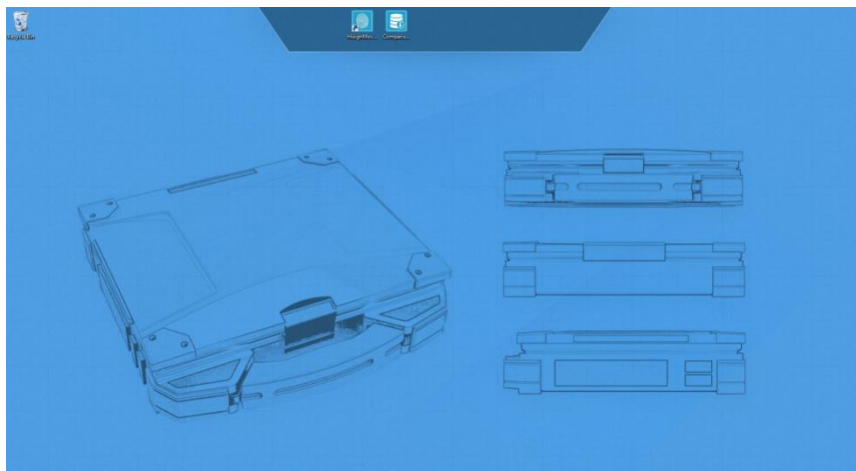

Figure 1.1.1
1. This product is composed of six components: product activation, the starting of collection, data export, data back, import contrast data (as shown in figure 1.1.1).